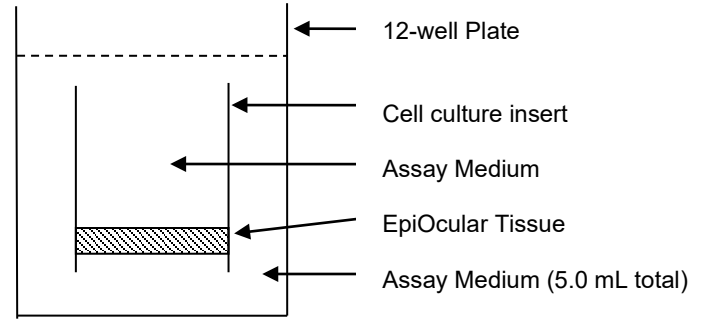

Figure 2: Configuration for Post Soak (37°C, 5% CO₂, 10 min.)
i) **Removal of test material:** After exposure of the EpiOcular tissues to the test materials is complete, discard any liquid remaining atop the EpiOcular tissues. For non-flowing, viscous materials, the sample can often be removed by drawing it off with a disposable Pasteur pipette. Next submerge each insert individually to fill it with PBS and then decant. Repeat this procedure 3 times or as many times as necessary to remove any residual test material. Following the 3 rinses, submerge the cell culture insert containing the tissue in 5.0 mL of assay media in each well of a 12-well plate (provided) for 10 minutes at 37°C and 5% CO₂. See Figure 2. This final soak removes any residual absorbed test material and is crucial to obtaining accurate, repeatable dose response curves.